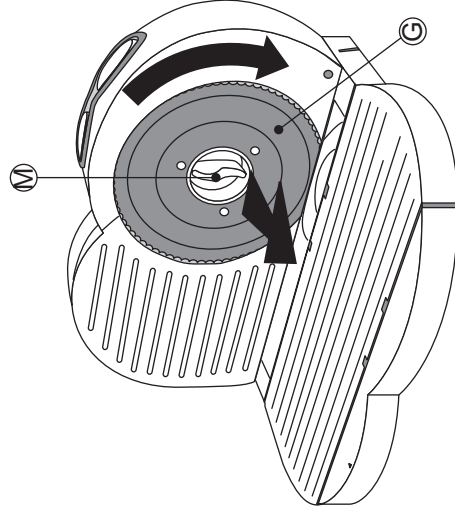

fig. 9
1. Make certain that the Food Slicer is OFF and UNPLUGGED. Turn the Blade Lock (M) clockwise to unlock it. Pull out the Blade Assembly (G). See fig. 9.